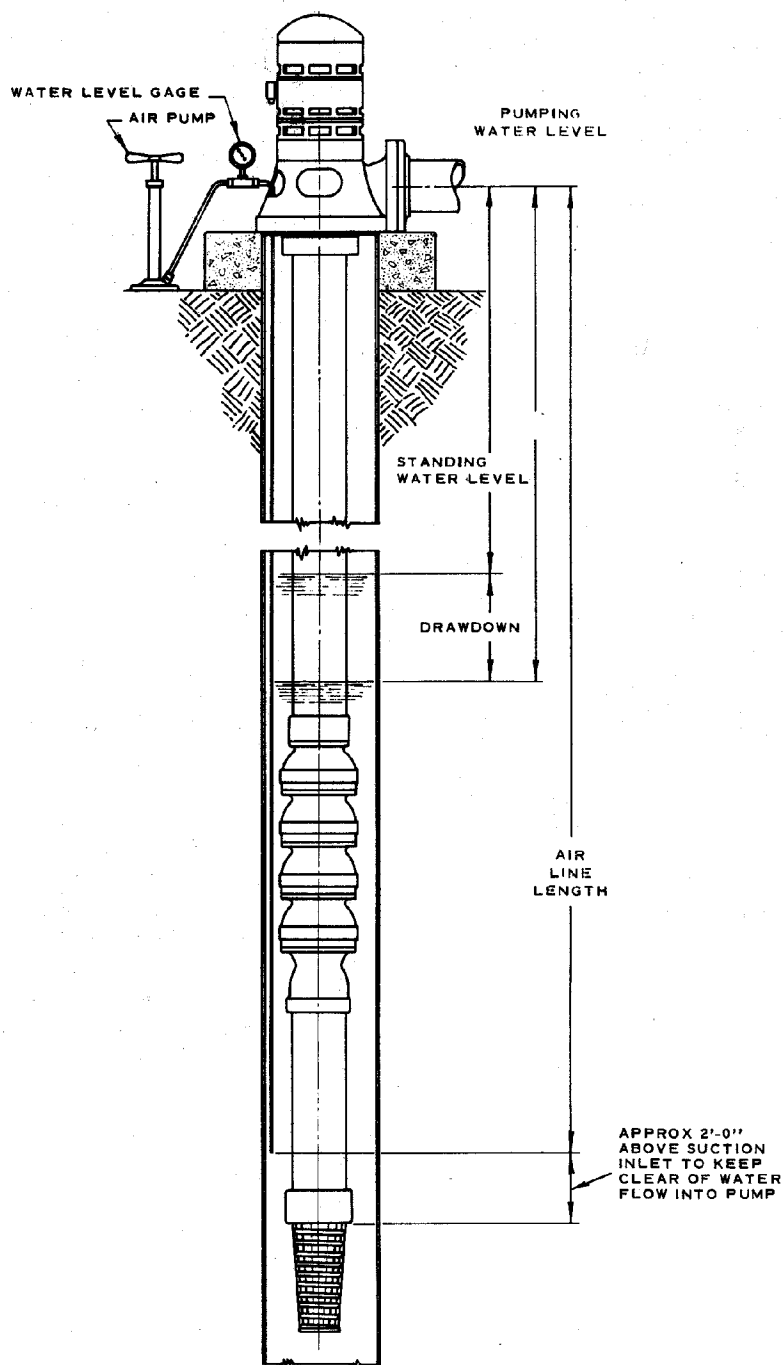

Fig. 19-4. Air Pressure Water Level Testing System.
F. Connect a suitable source of air pressure to the air line at the tee. A hand pump, as shown in Fig. 19-4, is satisfactory.
H. Standing (static) water level readings are taken before starting the pump or after a shut-down period long enough to allow the water level in the well to normalize. Drawdown (pumping level) readings are taken after the pump has operated against normal head for a period sufficient to draw the water level down to the maximum depth. (See Fig. 19-4.)